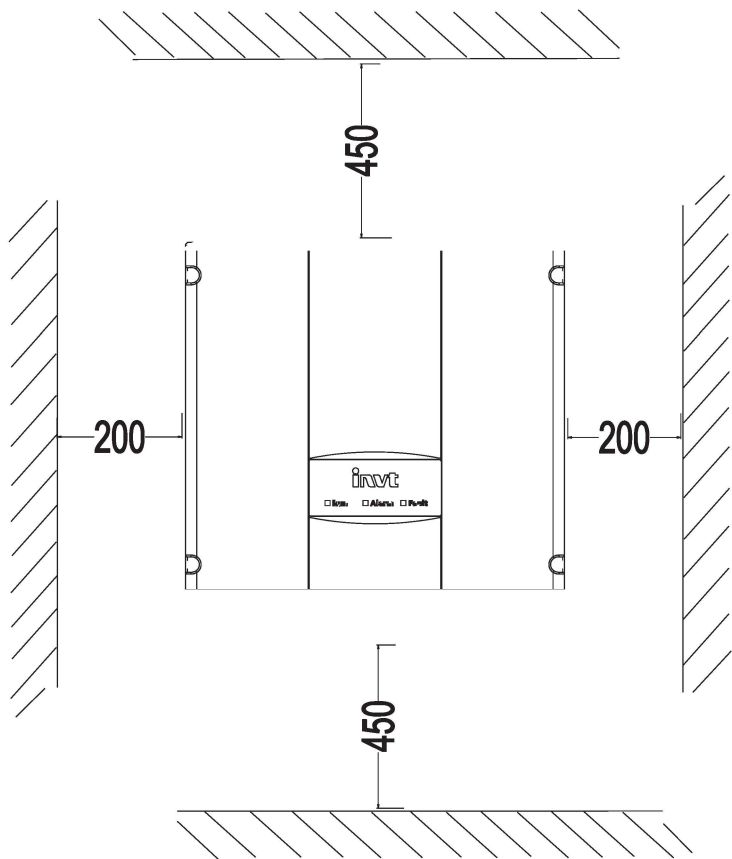
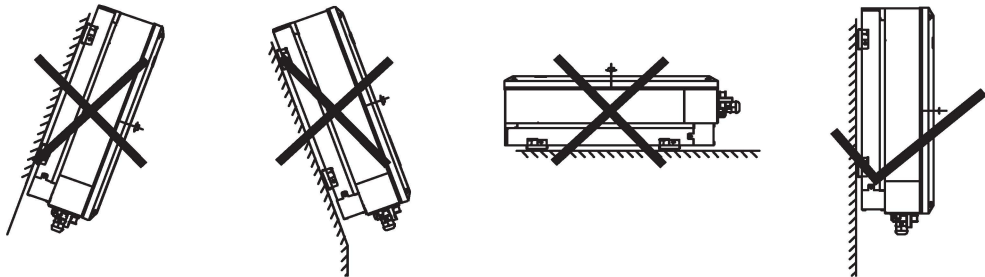

Figure 4.1 Installation space
Figure 4.2 Installation position
- (1) Height from ground level should be enough to ensure that display and status LEDs are easy to read.
- (2) Select a well ventilated place sheltered from direct sun radiation and rain.
- (3) Allow sufficient space around the inverter to enable easy installation and removal from the mounting surface. Refer to Figure 4.1.
- (4) The environment temperature is between -25°C ~ 60°C .
- (5) The installation position keeps away from the interface of other electrical devise.
- (6) The inverter needs to be installed on a firm and sturdy surface, such as wall and metal bracket and so on.
- (7) The installation surface should be perpendicular to the horizontal line. Refer to Figure 4.2.
- (8) The installation should ensure that the inverter is reliably grounded, and the material of grounded metal conductor should be consistent with the metal material reserved for the grounding of the inverter.
Since the installation place can be made by different construction materials, the inverter can be installed by different mounting methods. Take the typical installation environment as the example, the manual describes how to install the inverter on concrete wall. The inverter should be mounted in a vertical position of 90°to the horizontal line as shown in Figure 4.2.